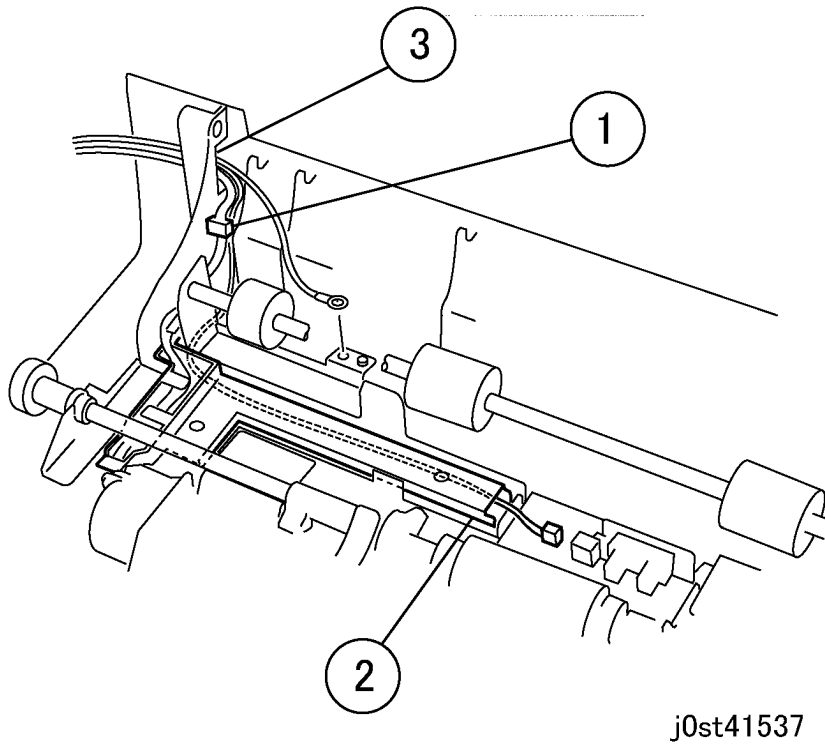

Figure 6 Removing the Wire Harness
8. Remove the Wire Harness from the Top Cover (Figure 6).